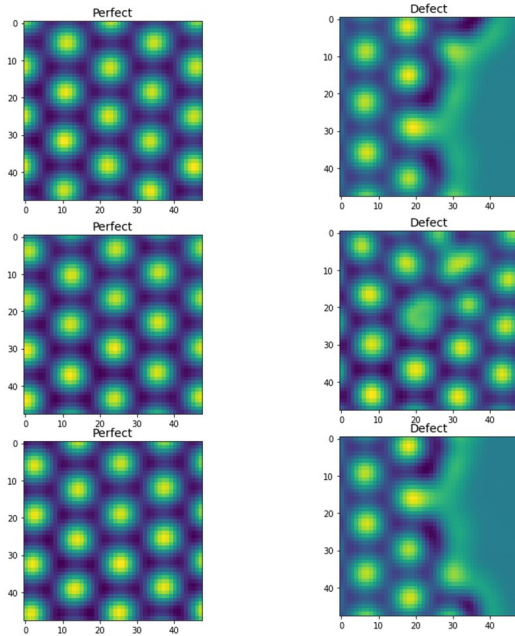

Figure 3: The classified perfect/defect images of graphene.
- We have successfully used the Sklean.tree.Decisiontreeclassifier Model to classify the two types of TEM images of graphenes. Some example images from the test data set are shown in Figure 3.